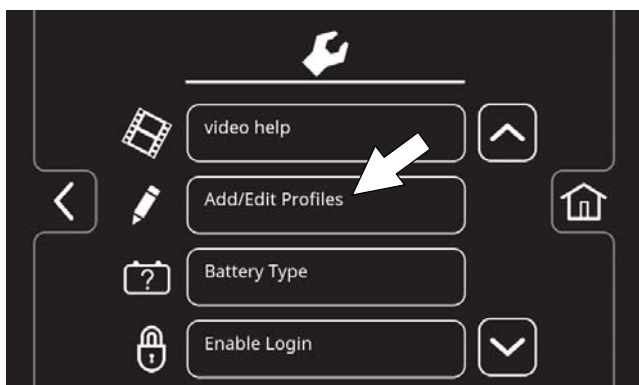

FIG. 190
2. Press the Add/Edit Profiles button (Figure 190).